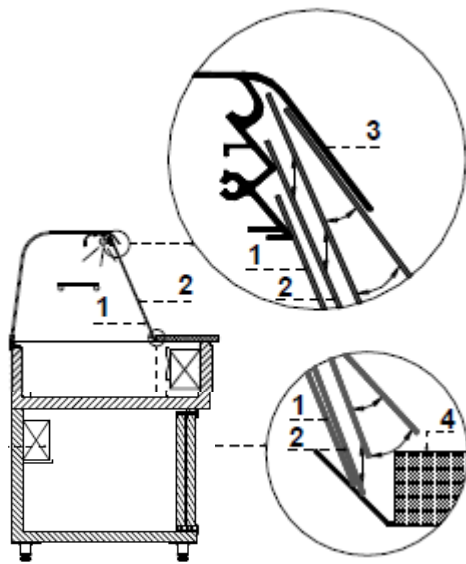

Figure 5 Assembly of the night screens
5. Install night screens (Figure 5)